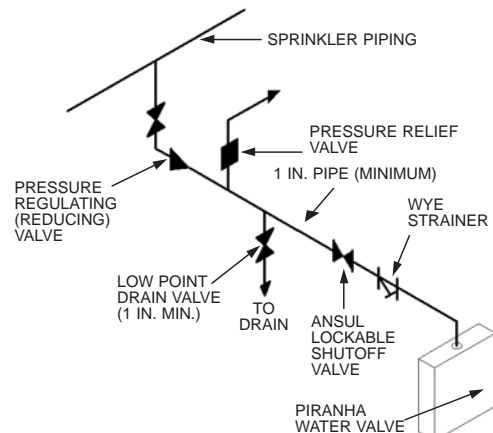

FIGURE 6D
- When the water pressure at the inlet to either the ANSUL AUTOMAN Regulated Release Assembly or Regulated Actuator Assembly exceeds 100 psi (6.9 bar) static pressure, the PIRANHA dedicated waterline will require a primary shutoff valve, a pressure regulating (reducing) valve (to lower the pressure to below 100 psi (6.9 bar)), and a pressure relief valve piped to a drain, in addition to the ANSUL lockable shutoff valve, wye strainer, and low point drain valve (see Figures 6d and 6e).